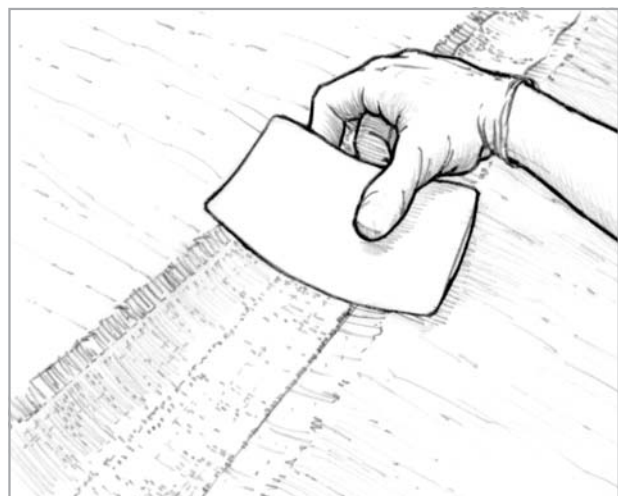

Figure 5-11 Apply fiberglass tape over the prepared joint.
6. Apply a layer of fiberglass tape in the depression along the joint (Figure 5-11). 727 Biaxial Tape (4" wide) is ideal for this joint. Use the spreader to work epoxy into the fabric and remove the excess. Apply additional layers, if desired, in the same manner.